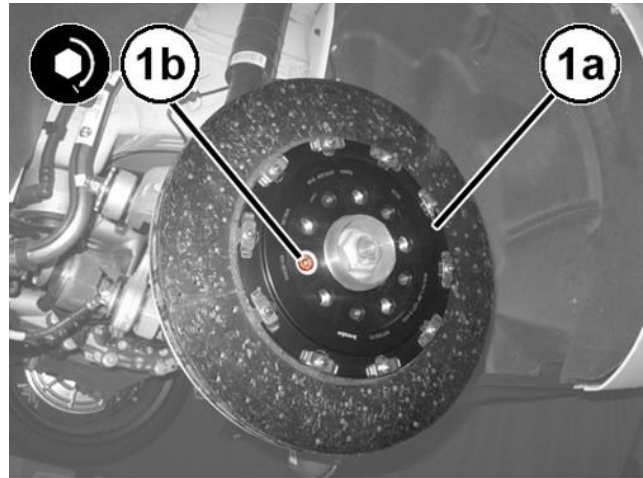

Figure 12 – Rear Brake Disc
35. Place the NEW rear brake disc (1a) onto the wheel hub and tighten the M10 bolt (1b) to 7 N·m (62 In. Lbs.) (Figure 12).